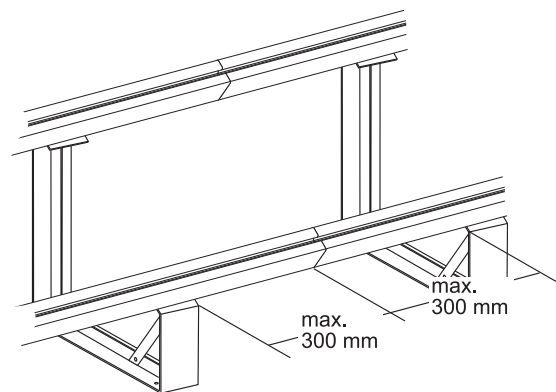

Fig. 1
1. The join for the mounting rails is between two flat-roof brackets (see figure 1)